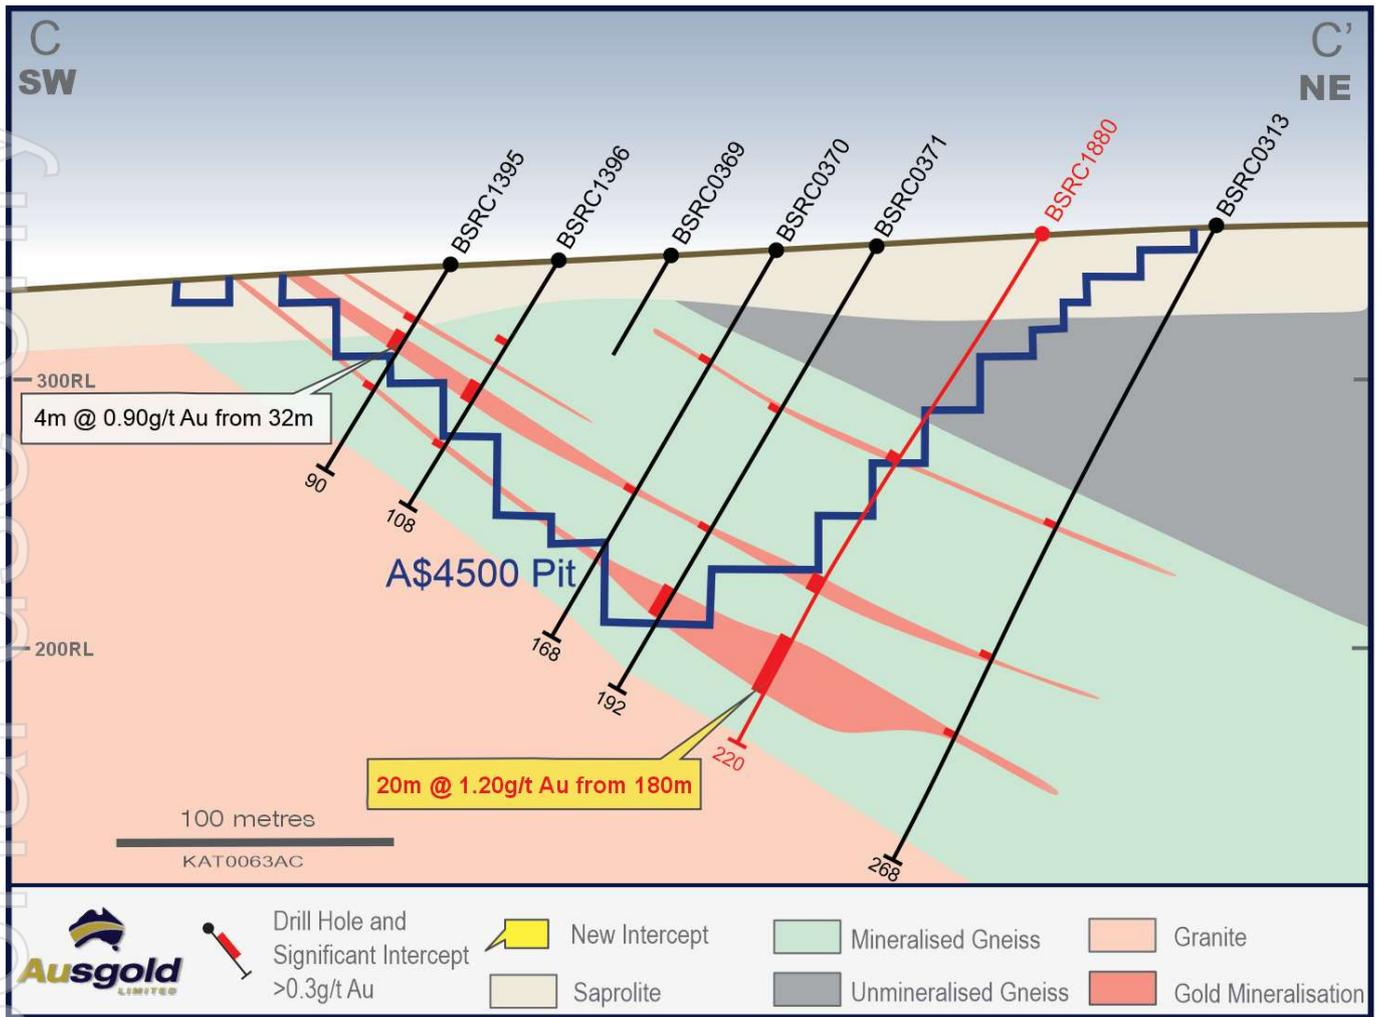

Figure 7 – Cross-section C-C' across Dingo with Resource Drilling and Resource Pit
- **20m @ 1.20g/t Au from 180m including 7m @ 1.30g/t Au from 180m and 2m @ 2.82g/t Au from 191m and 4m @ 1.50g/t Au from 196m BSRC1880 (Figure 7)**